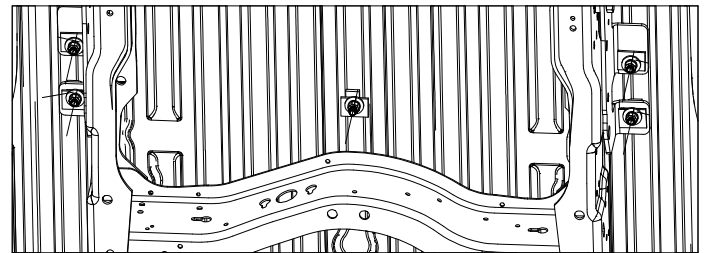

Figure C2: View looking into truck bed from rear of truck
2. **Install the rear mounting rail, cont.** Under the bed install four u-shaped spacers around each carriage bolt between the bed and the frame brackets. Next, install offset square washers, 1/2" flat washers, 1/2" lock washers and 1/2" finish nuts on each of the carriage bolts, see figure C2. Hand tighten each nut.